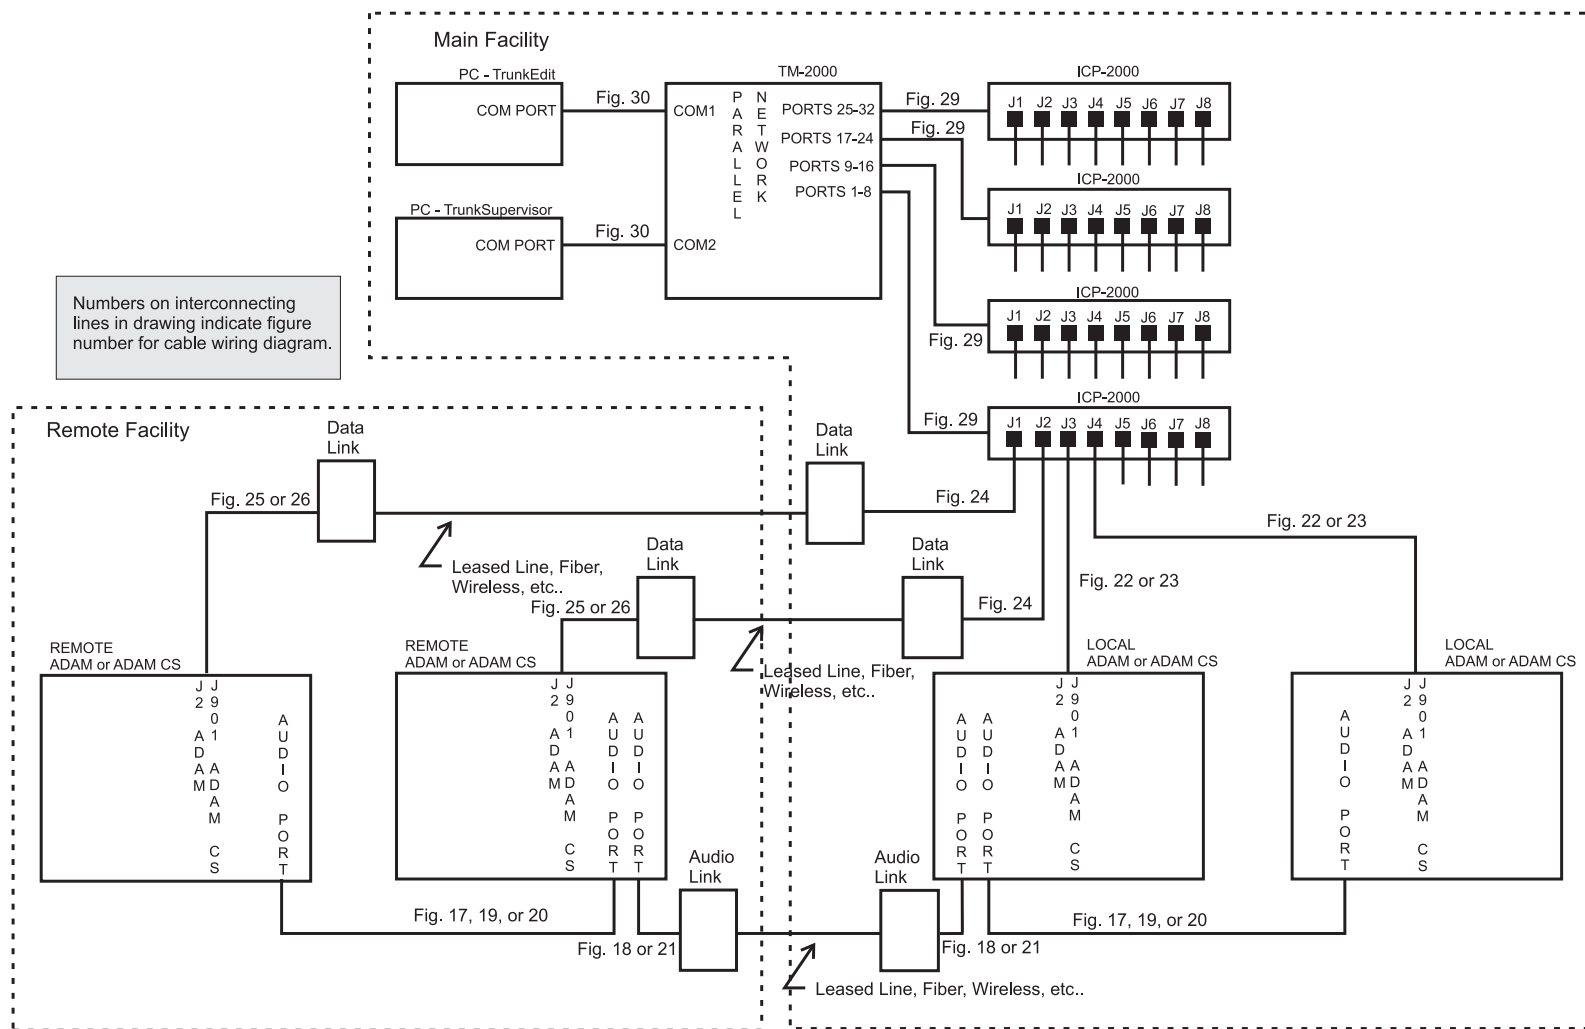
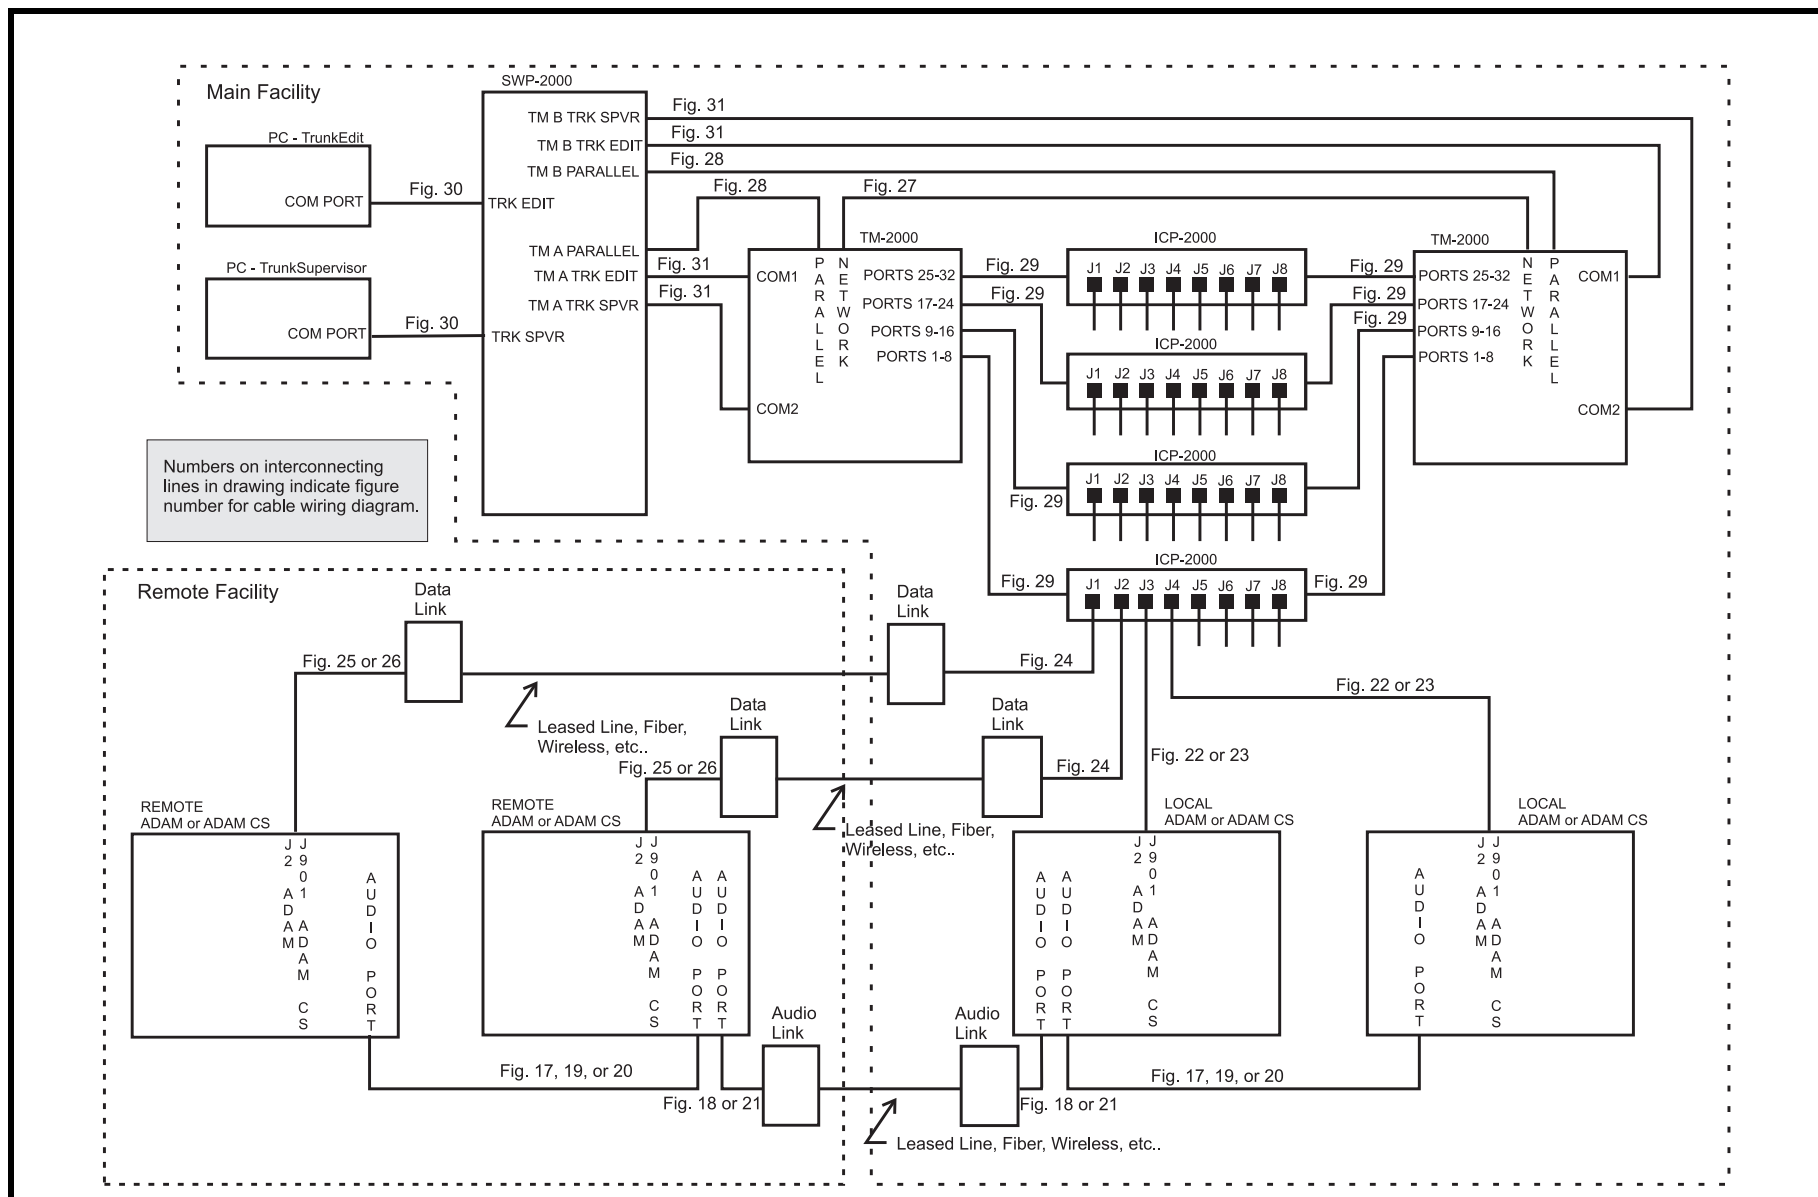
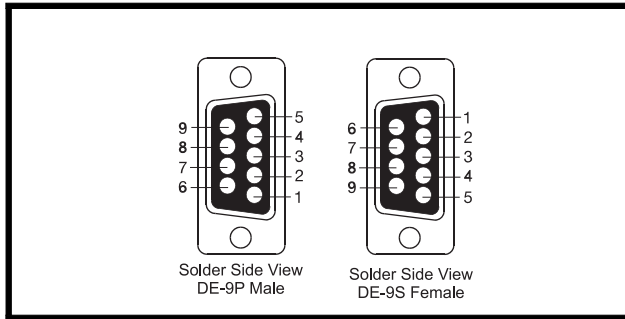

FIGURE 8. Example of a non-redundant TM-2000 system.
FIGURE 9. Example of a redundant TM-2000 system
FIGURE 10. 9-pin D-sub connector pinouts
1. Identify the correct wiring diagram for your system. For non-redundant TM-2000/MTM-2000 systems, use example system Figure 8 on page 18. For redundant TM-2000/MTM-2000 systems use the example in Figure 9 on page 19. Connect the trunking system components using the appropriate wiring diagram. Consult the appropriate figures as indicated in Figures 10 and 11 for specific cable wiring diagrams.
2. Interconnect one or more intercom audio ports between the intercom systems. These ports will be used for trunking communication only. Figure 10 and 11 indicate the specific cable wiring diagrams.